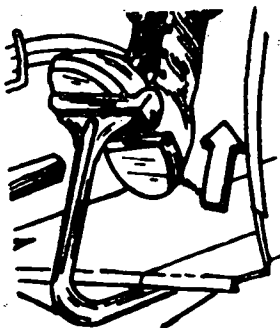

Fig. 3
- c) Release the clutch pedal (Fig. 3).